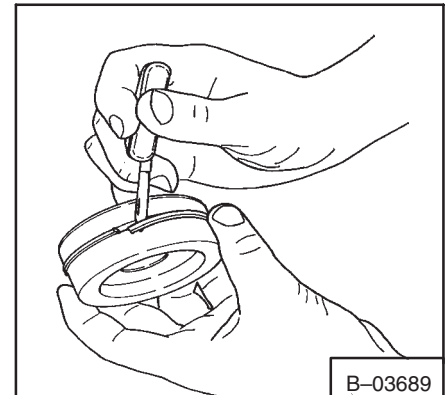

**Fig. 2-54** Removing Wiper Seal
11. Remove the wiper seal from the end cap (Fig. 2-54).